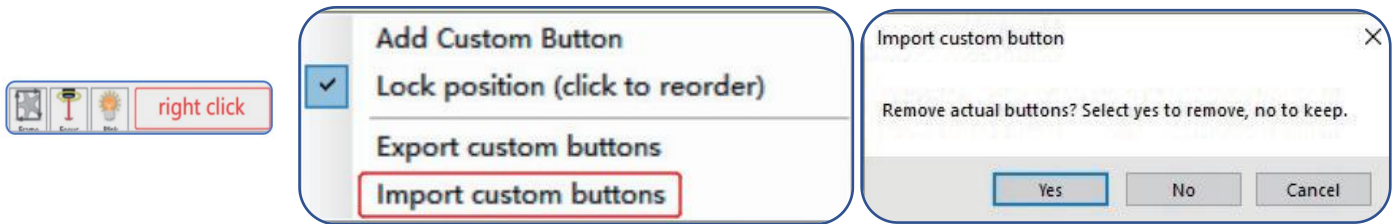

Figure 4 Import custom buttons
- Next, we will import the custom buttons into LaserGRBL. Open the LaserGRBL program, right-click in the blank area next to the button at the bottom (as shown in Figure 4), then choose <Import custom button>, and select the custom button zip file downloaded before to import, keep clicking Yes (Y) until there is no popup.